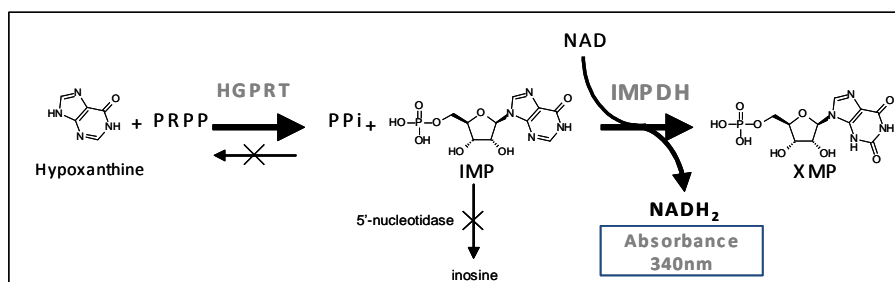

Figure 1. Enzymatic principle of PRECICE® HPRT Assay Kit.
PRECICE® HPRT Assay Kit provides an enzymatic tool for continuous spectrophotometric monitoring of HPRT activity in a convenient 96-well plate format. In the assay, HPRT activity is measured as a rate of production of IMP, which is oxidized by recombinant IMPDH enzyme with simultaneous reduction of NAD⁺ to NADH measurable by absorbance at 340nm (Fig. 1).
Typical results obtained in the presence of PRPP or in its absence are shown on Table 1 and Figure 1 (for recombinant HGPRT) and Table 2 and Figure 2 (for hemolysates).
Figure 1. Time course of IMP formation by human recombinant HPRT (1.5mU/ml) incubated in the presence of PRPP in standard reaction buffer or its absence. After vigorous shaking for 2min, the absorbance at 340nm was monitored at 37°C using iEMS Plate Reader (Thermo Scientific) and round-bottom 96-well microplate (Corning, Costar®, ref. 3797).